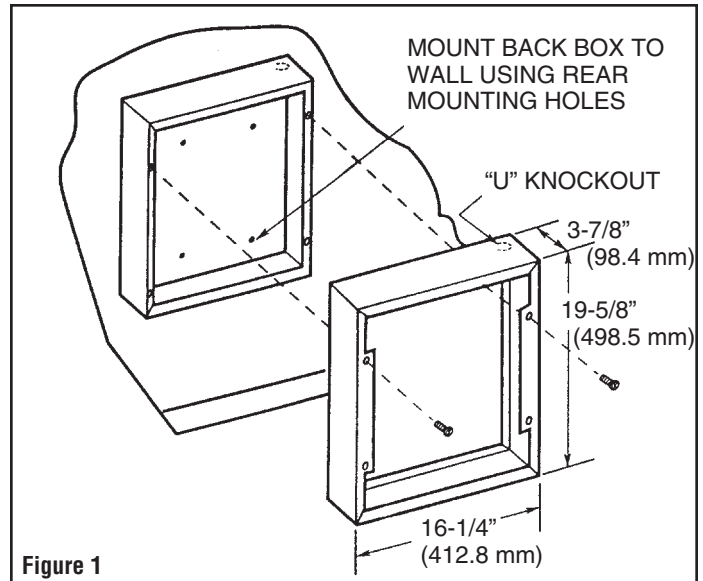

Figure 1
(See Figure 1)**
- a. Run a power supply cable into the area to the upper right hand corner of the mounting frame shown in figure 1.
- c. Secure the frame in position over the box with the screws provided as shown in figure 1.